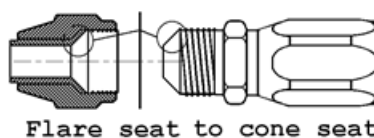

FIG 17.
- iii. The flare seal to cone seat. (Fig 17)